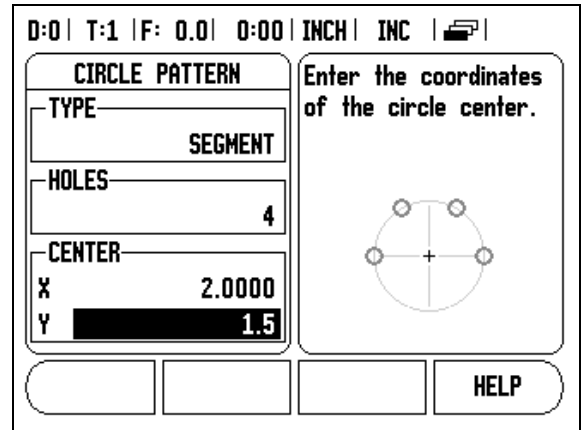
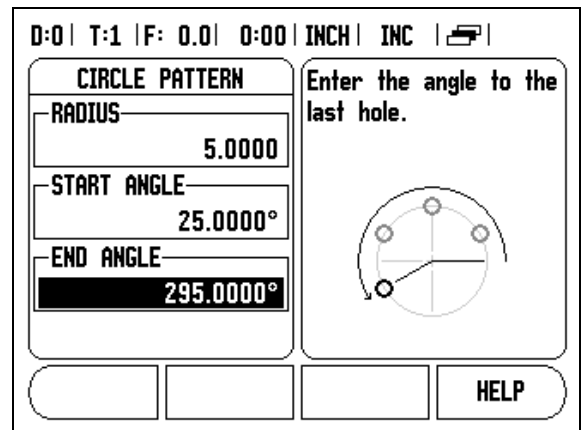

Fig. I.18 Beginning of Circle Pattern form
Fig. I.19 Page 2 of Circle Pattern Form
**Example: Enter data and execute a circle pattern.** See Fig. I.18, & Fig. I.19.